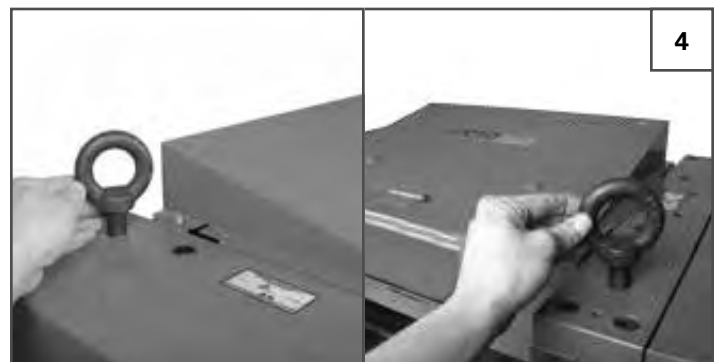

FIGURE 4: INSTALLING LIFT HOOKS
1. If needed, install the lift hooks on top of the machine. See Figure 4.